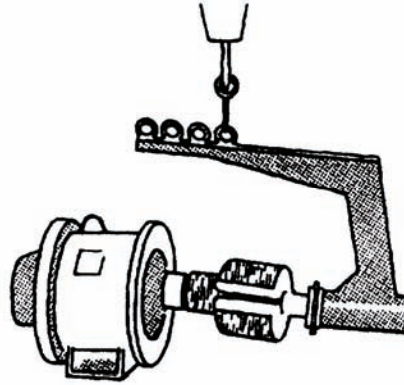

Figure 4-13. Rotor Assembly Lifting Device (Typical).
- d. Attach a suitable rotor lifting device to drive hub (27) and overhead hoist (Figure 4-13).
- f. Attach a suitable rotor lifting device to drive hub (27) and overhead hoist (Figure 4-13).
- g. Carefully install rotor assembly (23) and attached components into generator housing (31).